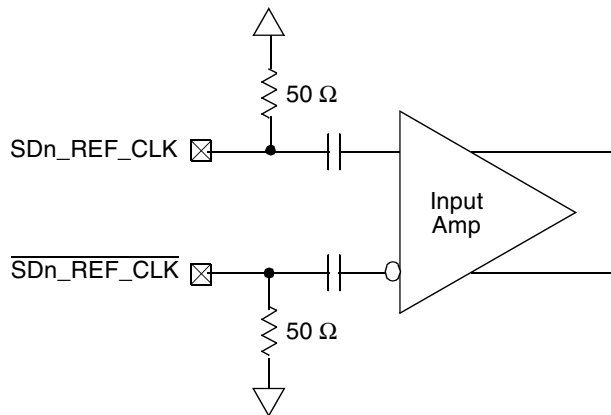

Figure 58. Receiver of SerDes Reference Clocks
Figure 58 shows a receiver reference diagram of the SerDes reference clocks.
- The SDn_REF_CLK and $\overline{SDn_REF_CLK}$ are internally AC-coupled differential inputs as shown in Figure 58. Each differential clock input (SDn_REF_CLK or $\overline{SDn_REF_CLK}$) has a 50- Ω termination to SGND (xcovvss) followed by on-chip AC-coupling.